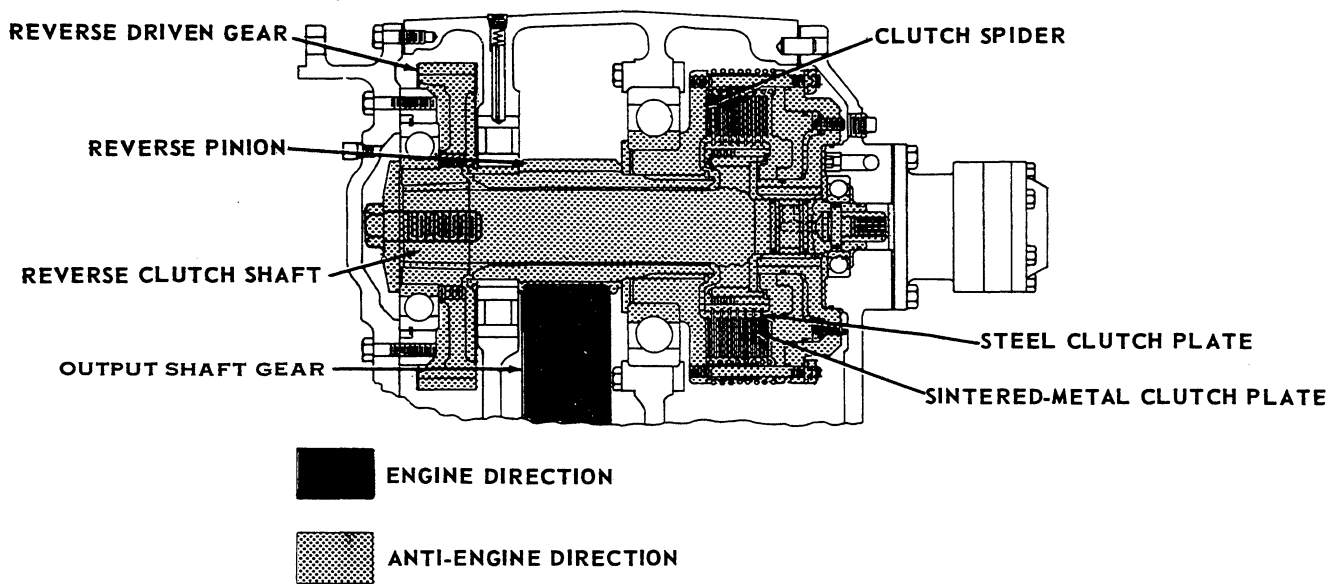

Figure 8. MG-514 Marine Gear Power Flow – Reverse.
C. Reverse (Fig. 8). When in reverse, all parts that rotated in neutral at engine speed are still turning. However, when the reverse clutch is engaged the steel clutch plates make positive contact with the sintered-clutch plates. The external lugs of the sintered-metal clutch plates drive the clutch spider which is spline-connected to the reverse pinion. Therefore, the reverse pinion rotates in anti-engine direction at engine speed when the reverse clutch is engaged. The reverse pinion is meshed with the output shaft gear which is keyed to the output shaft. The output flange is spline-connected to the output shaft and, therefore, the flange rotates in engine direction when in the reverse position. The output shaft and output flange rotate at a reduced speed due to the ratio between the output shaft gear and the reverse pinion.